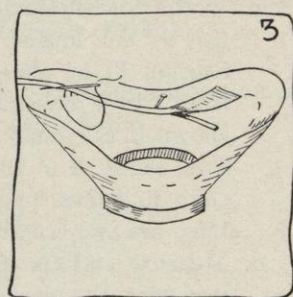

FIG. 3.
- c. If the measurement you wrote down (see Section 2 *a* (3)) is not longer than the true bias folded over (see Section *b*) or already cut, use a true bias; but if it is from 1 to 6 inches longer, then fold over a long bias, as shown in Section 5 or Section 6 of Job 15 (see Figures 3, 9 *A*, and 9 *B* of the same job, page 65). If it is more than 6 inches longer, then, instead of folding a long bias, use two true bias strips.
- b. Pin the cord on the basting, on about one quarter of the brim (see Figure 3).
- c. Beginning about 1 inch from where you started to make the cord, slipstitch the cord to the brim (see Figure 3) for about 3 inches.